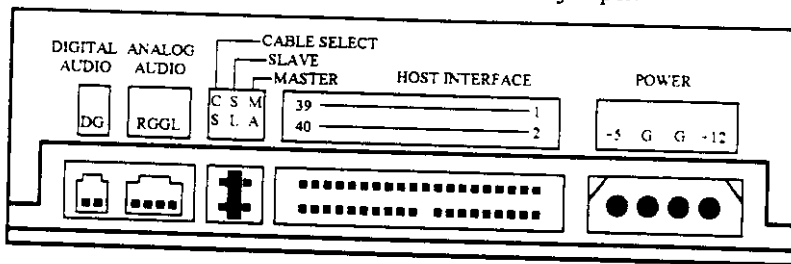

Figure 1: Rear panel of CD-ROM drive
**NOTE: The pin definition of power connector should be the same as that in figure 1.**
There are three pairs of jumpers, MA(Master), SL(Slave) and CS(CSEL) on the rear panel of your CD-ROM drive. Figure 1 shows the location of the jumper.